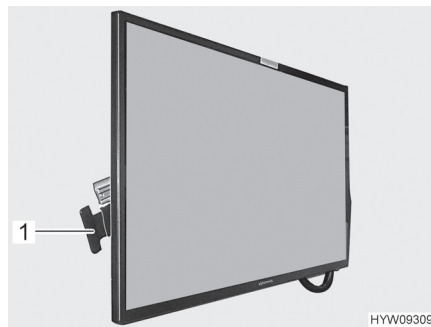

Fig. 87 Flat screen
- Press handle (Fig. 87,1) towards the flat screen and hold it there. The flat screen is unlocked.